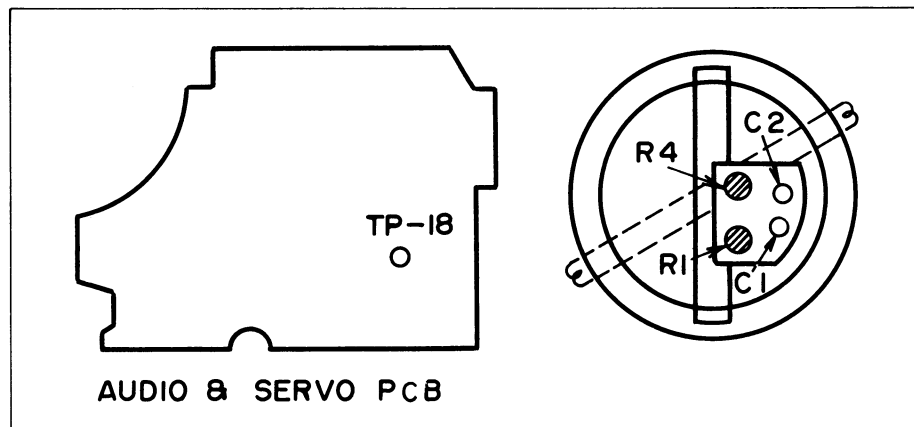

Fig. 5-17. Video head adjustment
1. Refer to Fig. 5-17. Connect the oscilloscope to TP-18 (P.B. FM) on the Audio and Servo circuit board.